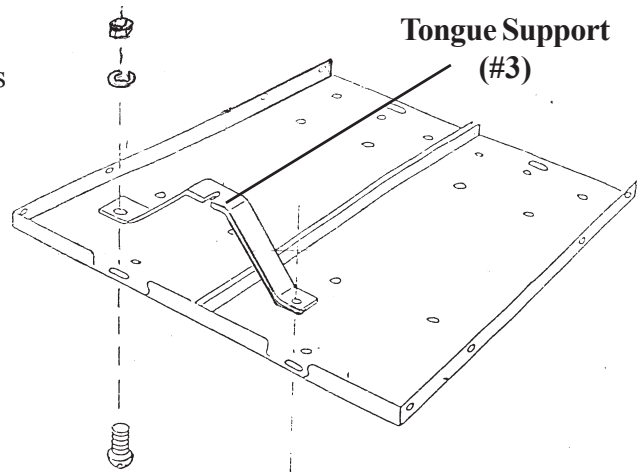

Figure 3
Step 3: Attach the Tongue Support (#3) to the Bottom Panels using 2 Bolts (#22), 2 Washers (#23), and 2 Nuts (#24) - see Figure 3.